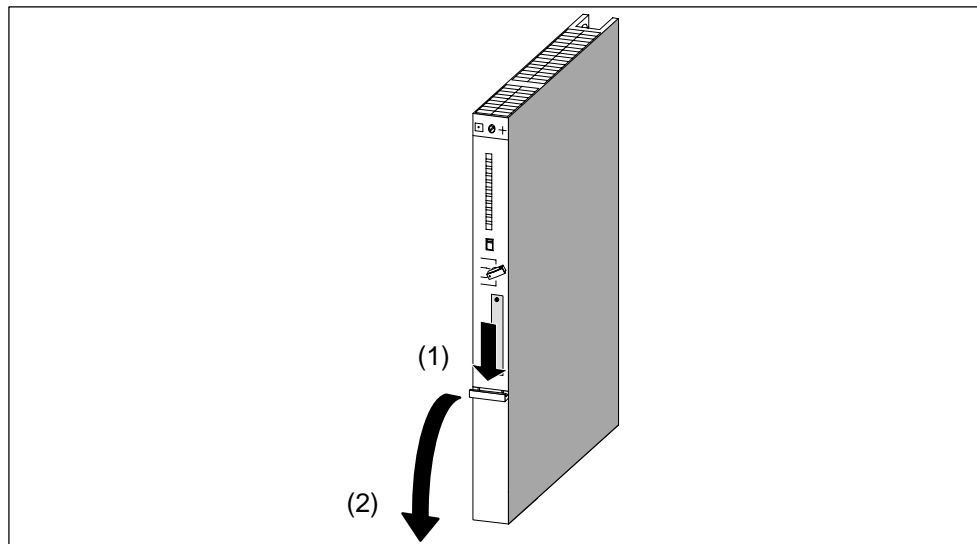

Figure 2-5 Removing the Cover
2. Remove the cover, if applicable, from the module (see Figure 2-5).